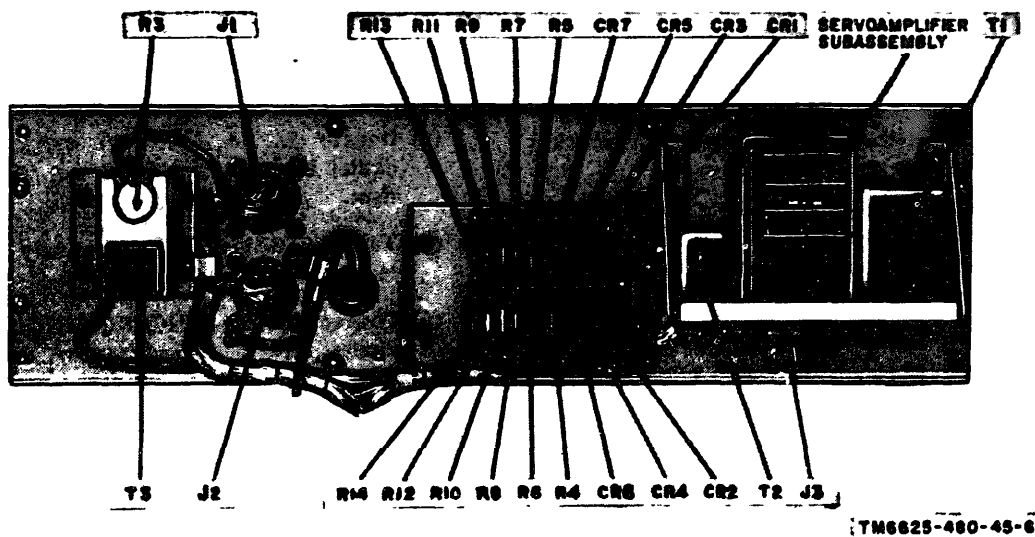

Figure 3. Test Set AN/ASM-111 rear panel assembly, parts locations.
- (1) Connect electronic voltmeter (A2) to either end of R12 (fig. 3) with electrical lead 6625-957-9299 and adapter 4931-739-4422, and to **EXTERNAL AC METER** (black) terminal with electrical lead 6625-957-9300.